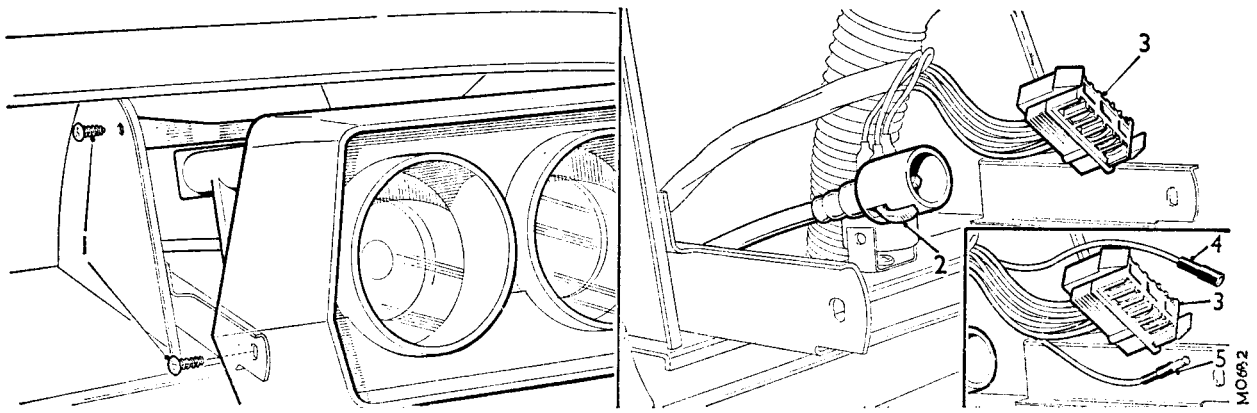

Fig. Nb.1
4. Release the trim liner on the other side of the instrument panel in a similar manner but do not remove it; the instrument panel securing screws are now accessible (see Fig. Nb.1).
5. Remove the four securing screws (1) and partially withdraw the panel; press in the release lever (2) on the speedometer cable and pull the cable out of the instrument. Pull out the multi-plug wiring connector (3) from the rear of the panel and remove the assembly (see Fig. Nb.1).
- 1275 GT. In addition to the above instructions also disconnect the tachometer connections (4) and (5) (see Fig. Nb.1).
2. Press in the release lever (2) on the cable and pull the cable out of the instrument (see Fig. Nb.1). Withdraw the cable into the engine compartment.